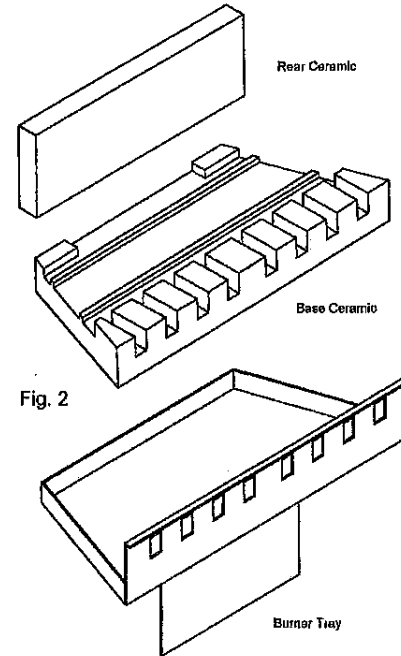
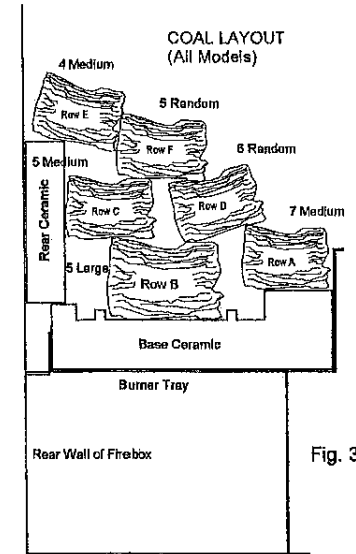

Fig. 2
Fig. 3
- 5.1 The fire tray and ceramics are illustrated in Fig. 2 & Fig.3. Take the base ceramic and place it on the fire tray then take the rear ceramic and stand it upright at the rear of the base ceramic.
- 5.2 With reference to Fig. 3 Lay the coals as follows :